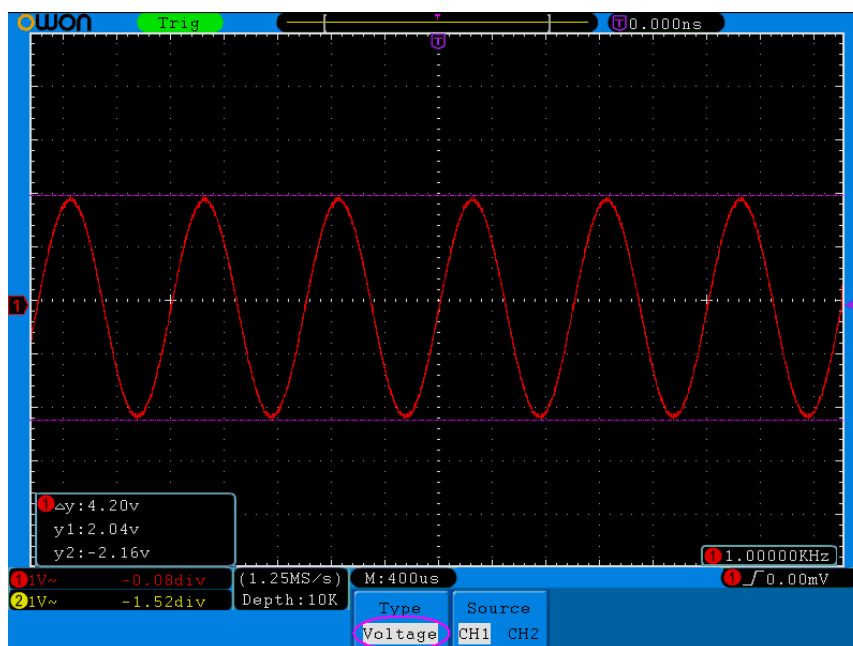

Figure 5-72 Waveform of Voltage Cursor Measurement
4. According to the measured waveform, adjust the positions of Cursor1 and Cursor2 by turning the **VERTICAL POSITION** knob of CH1 and CH2. Cursor increment window at the left bottom of waveform shows absolute value of D-value of cursor 1 and cursor 2 and the present position of the two cursors (see Figure 5-72).